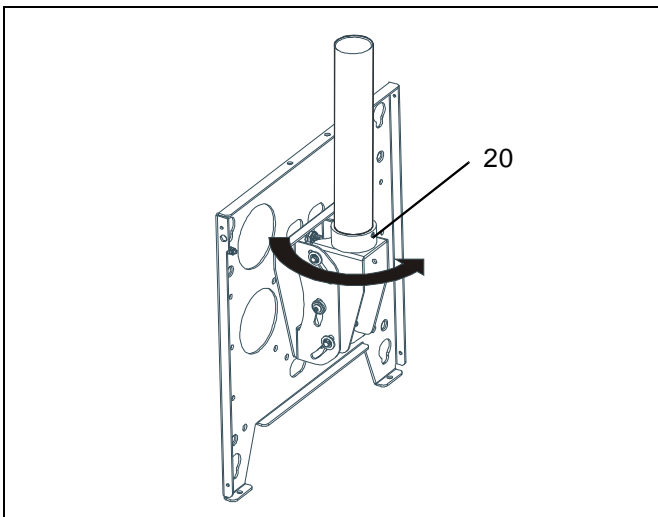

Figure 2: Attach Mount to NPT Pipe
1. Thread mount (10) onto existing 1-1/2" NPT pipe at least four complete turns (See Figure 2).
2. Using hex wrench (30), insert 5/16"-18 set screw (20) into threaded collar on mount (10).